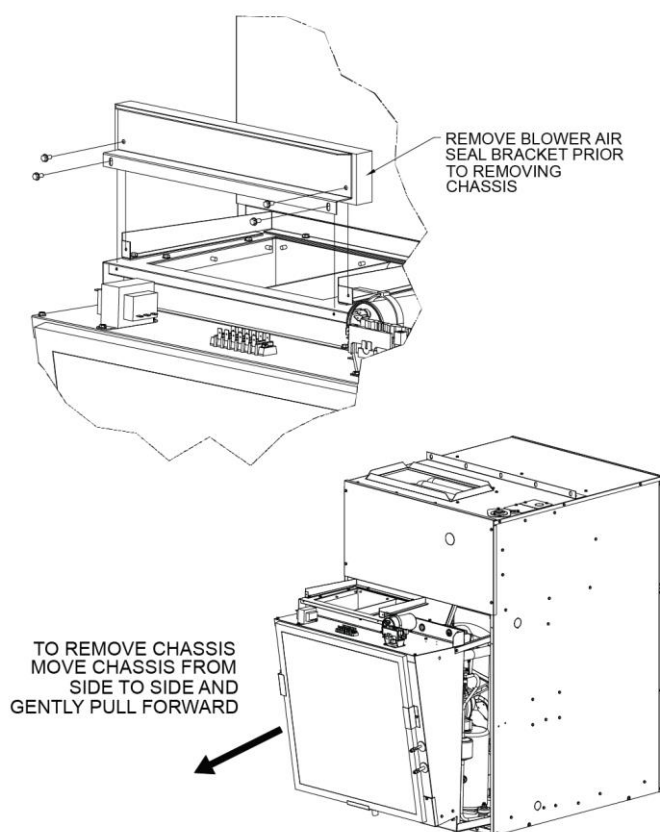

FIGURE 48 – Slide Out Chassis
- 5) Unplug mating harness connectors for low voltage and high voltage in the control section **FIGURE 47- Line Voltage Connector, FIGURE 48- Low Voltage Connector.**
- 3) Disconnect low voltage (6 pin) & line voltage (3 pin) harness connectors by pressing on the release tabs and using a downward motion (**FIGURE 46 - Line Voltage Connector (3 Pin)** & **FIGURE 48 – Low Voltage Connector (6 pin)**).
- 6) Slide-out refrigeration chassis **FIGURE 48 – Slide Out Chassis**